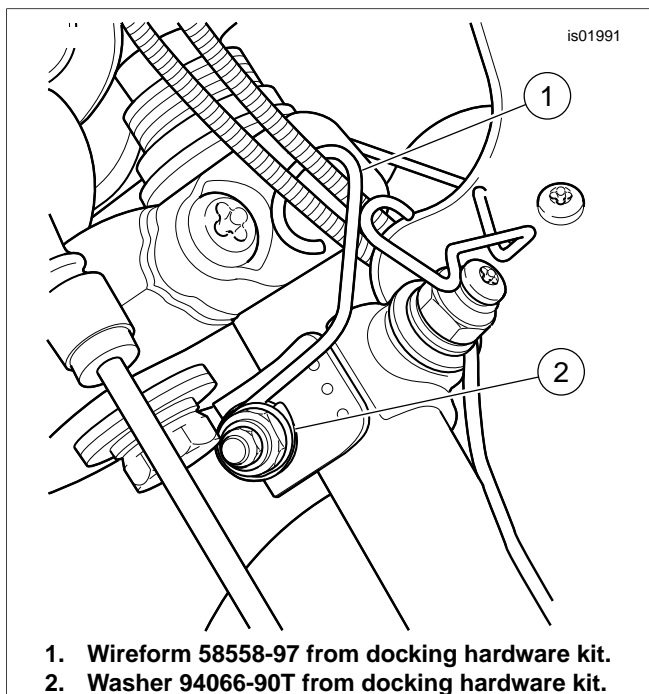

Figure 3. Throttle Cable Attachment (All Handlebars Except Buckhorn-Style) (View Looking Upward)
2. For handlebar styles other than buckhorn pullbacks, see Figure 3. Use the wireform (1) from the Docking Hardware Kit to secure the throttle cables to the upper mounting clamp as shown. Place the chrome washer (2) from the kit between the wireform and the mounting clamp nut.